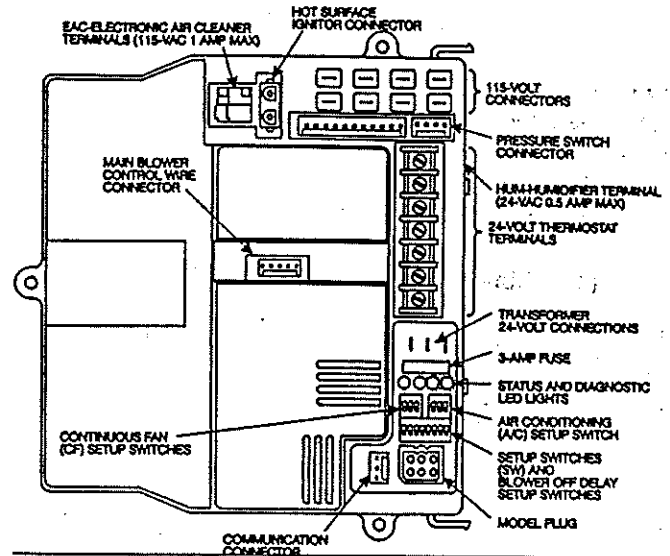

Figure 25 - Control Center
This feature helps diagnose a system problem in the case of a component failure. To initiate the component-test procedure, turn setup switch SW-6 to ON position (See Fig. 25)
- (2) Turn setup switch SW-2 on control center to ON position. (See Fig. 25) This will keep furnaces locked in low heat operation.
- (3) Turn low heat adjusting screw (5/64 hex Allen wrench) counterclockwise (out) to decrease input rate or clockwise (in) to increase rate. When adjusting input rate, DO NOT set manifold pressure less than 1.3 in or more than 1.7 in w.c. for natural gas. Make any major adjustments by changing main burner orifices.
- (4) Turn setup switch SW-2 to OFF position after low fire adjustment.
- (5) Jumper R-W2 on control thermostat connections. (See Fig.25) This will keep furnace locked in high heat operations.
- (6) Turn high heat adjusting screw (5/64 hex Allen wrench) counterclockwise (out) to decrease input rate, DO NOT set manifold pressure less than 3.2 in or more than 3.8 in. w.c. for natural gas. Make any major adjustment by changing main burner orifices.